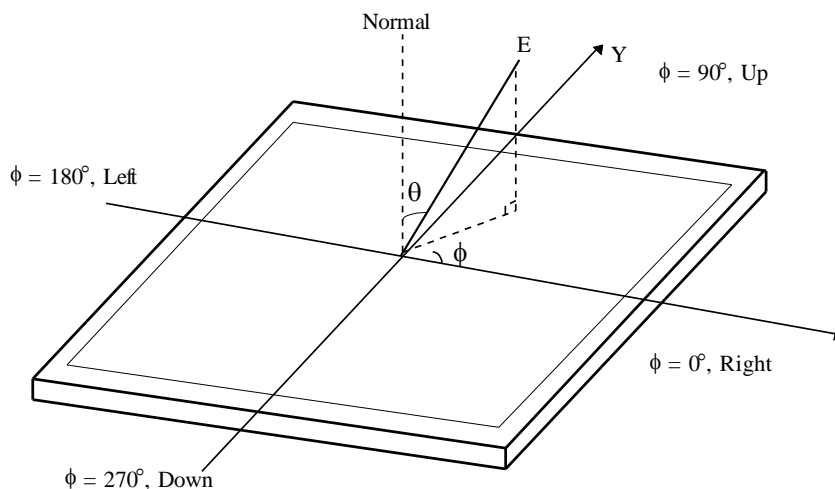

FIG. 10 Viewing angle
6. Viewing angle is the angle at which the contrast ratio is greater than 10. The angles are determined for the horizontal or x axis and the vertical or y axis with respect to the z axis which is normal to the LCD surface. For more information see FIG 10. (By PR880)